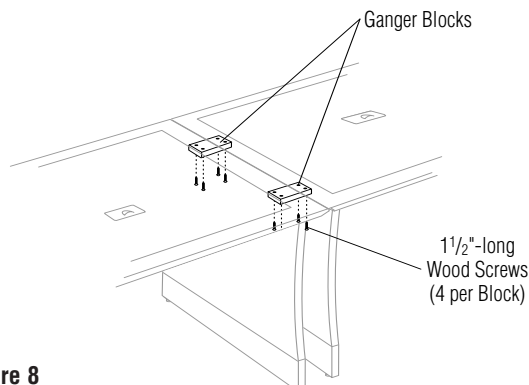

Figure 8
9. For ganged and/or electrically interconnected tables, attach two wood gangster blocks with 1 1/2"-long wood screws to the underside of the table top on each end (Figure 8).